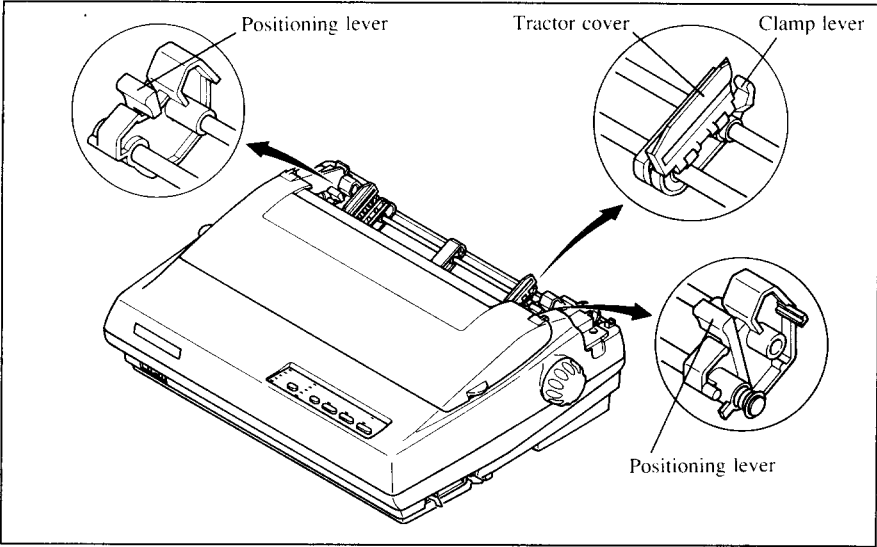

Figure 1-13. Move the tractor units downwards for loading the paper from the rear
6. Move the tractor units downwards by gripping the positioning levers on both side of the tractor unit as shown in Figure 1-13.